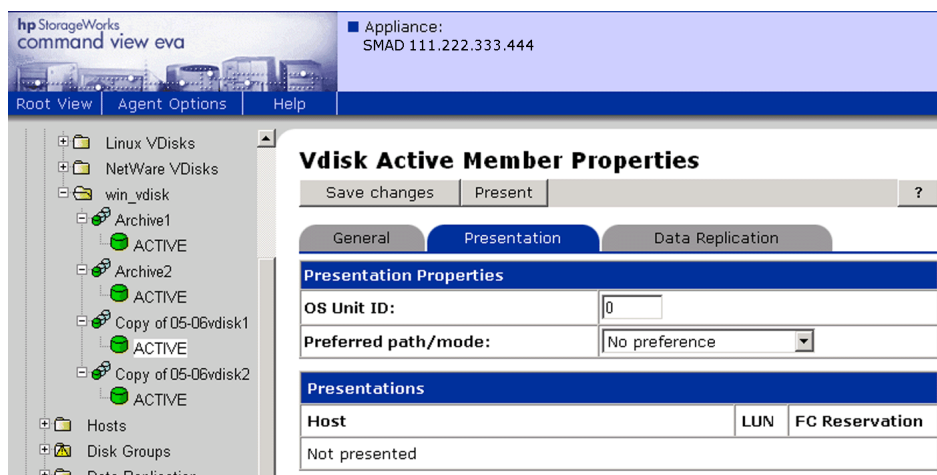

Figure 76: Vdisk Active Member Properties page with Present tab
- b. Choose the **Presentation** tab. The Vdisk Active Member Properties page is displayed with a **Present** tab (Figure 76).